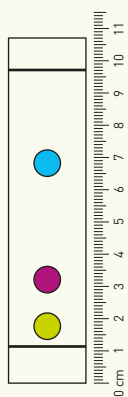

FIGURE 8 A chromatogram
- 3 Analyse the chromatogram in Figure 8.